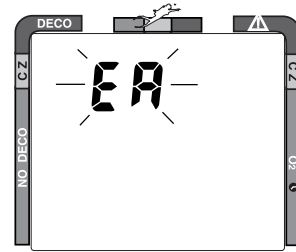

Fig. 56 - EA Mode
- the letters EA appear, flashing (Fig. 56)